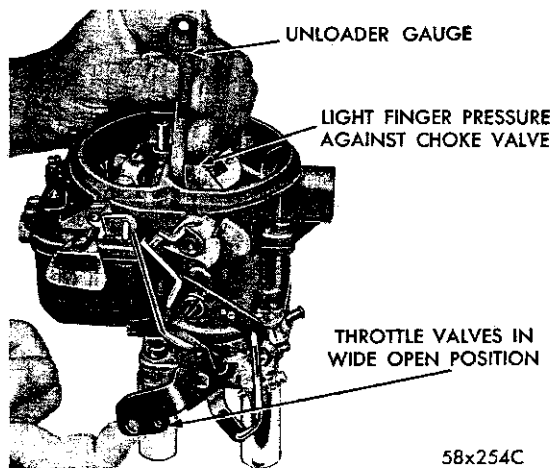

Fig. 33—Measuring the Choke Unloader Setting
(1) Hold the throttle valves in the wide open position. Insert Tool T109-31 or a 1/4" drill shank between the upper edge of the choke valve and the inner wall of the air horn, as shown in Figure 33.